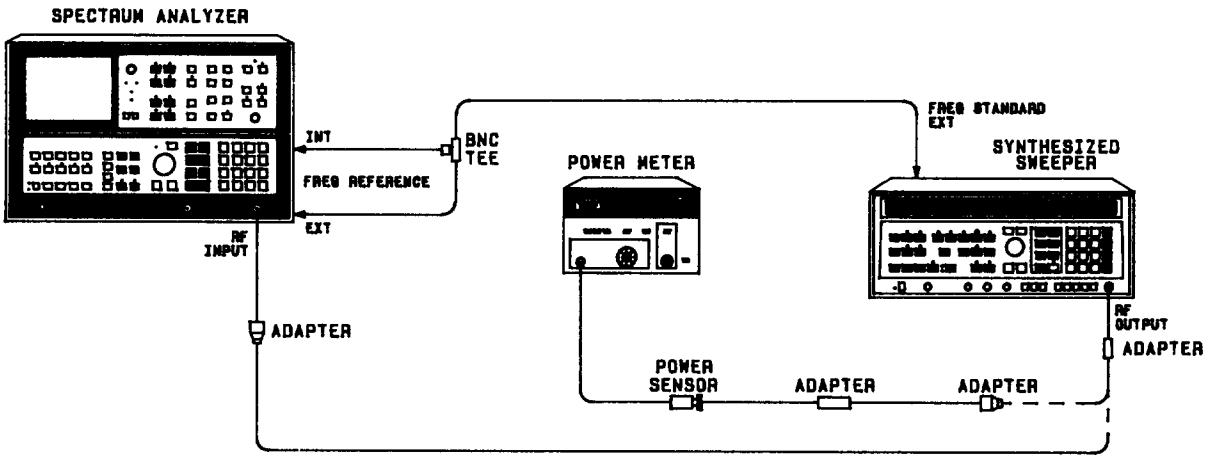

FIGURE 32. GAIN COMPRESSION TEST SETUP
3. Connect equipment as shown in Figure 32, with output of synthesizer connected to power sensor. Power is measured at the end of the cable assembly, not at the synthesizer output connector. Adjust synthesizer output level for a power meter indication of $-20.00 \text{ dBm} \pm 0.05 \text{ dB}$.
4. Disconnect cable assembly from power sensor and connect free end to analyzer RF INPUT as indicated in Figure 32. Key in analyzer settings as follows: